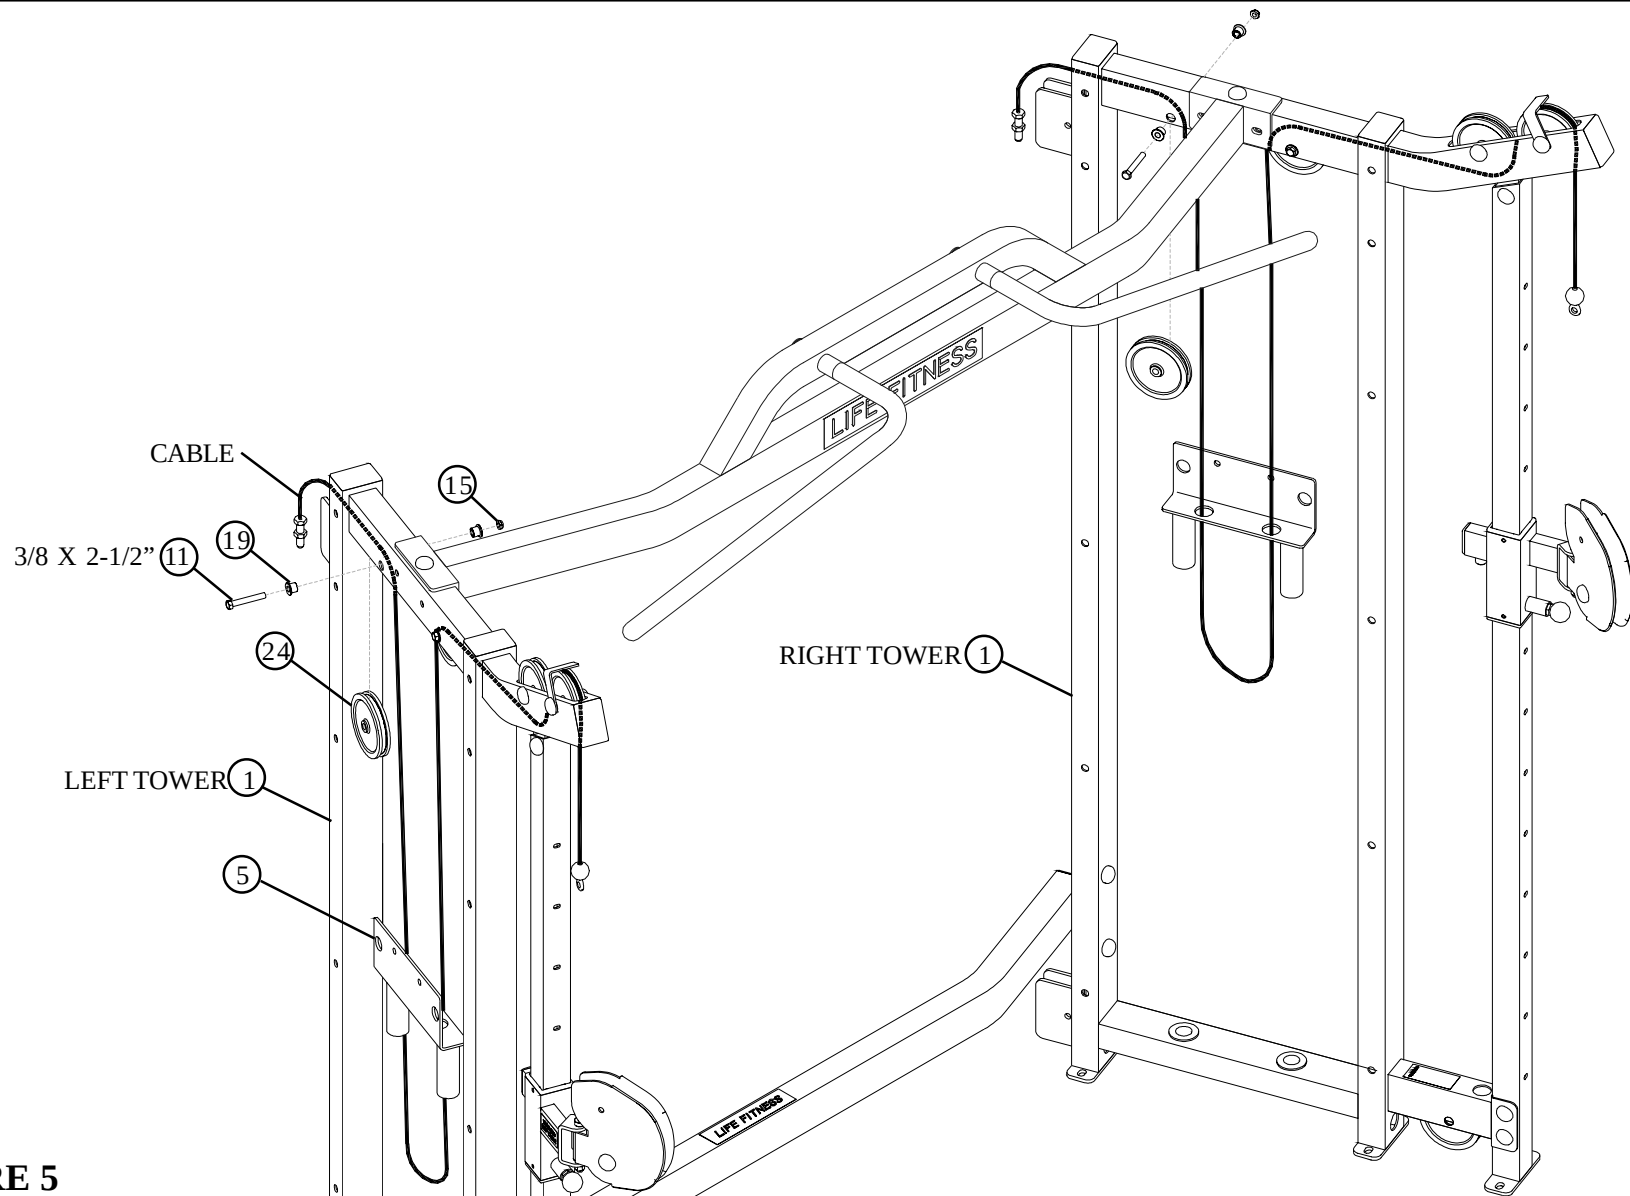

FIGURE 5
- Route the threaded end of CABLE through the GUIDE ROD SUPPORT (5) and through the LEFT TOWER (1) as shown in FIGURE 5.
- **SECURELY** assemble one 4-1/2" PULLEY (24) to the TOWER (1) using one 3/8 X 2-1/2" BOLT (11), two 3/8" FLANGE SPACERS (19), and one 3/8" LOW HEIGHT LOCK NUT (15) as shown in FIGURE 5.
- Repeat these steps to assemble the 4-1/2" PULLEY (24) and the GUIDE ROD SUPPORT (5) to the RIGHT TOWER (1). (**NOTE: The GUIDE ROD SUPPORT (5) is assembled to the RIGHT TOWER (1) in the opposing direction of the LEFT TOWER (1). See FIGURE 5.**)